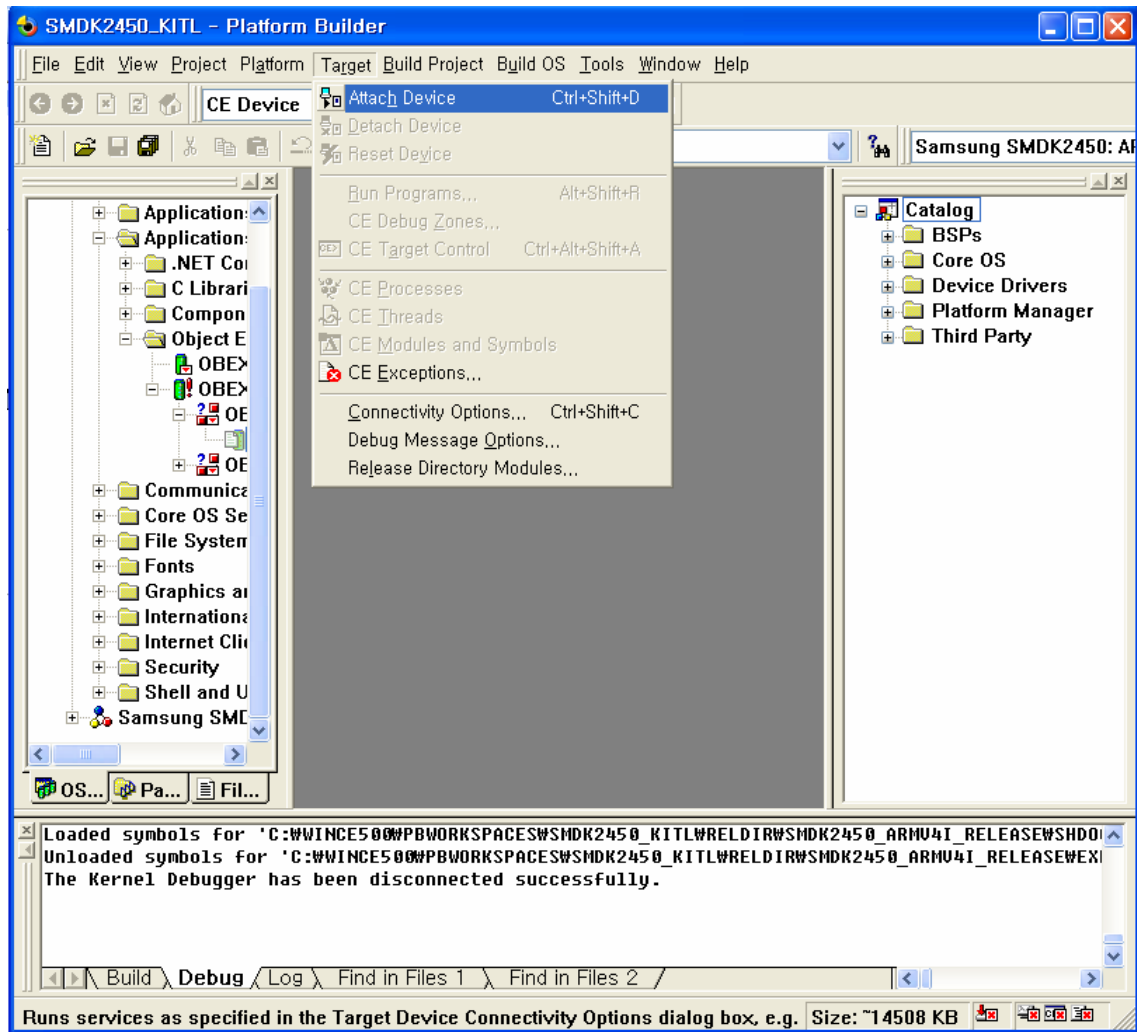

Figure 6-32 Attach Device
10. On the Target menu in Platform Builder window, click Attach Device as shown in figure 6-32.